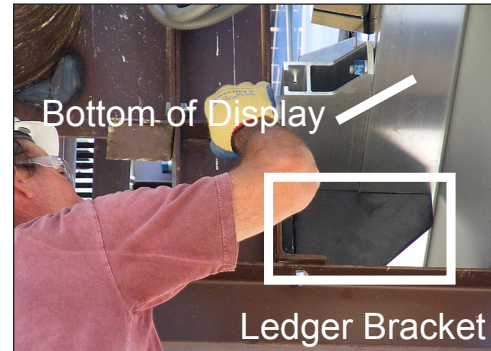

Figure 5: Display Resting on Ledger
17. Verify the display is resting on all ledger brackets. Shim the ledger bracket if the display is not resting on all ledger brackets until it is in contact with the display. Refer to **Figure 5**.